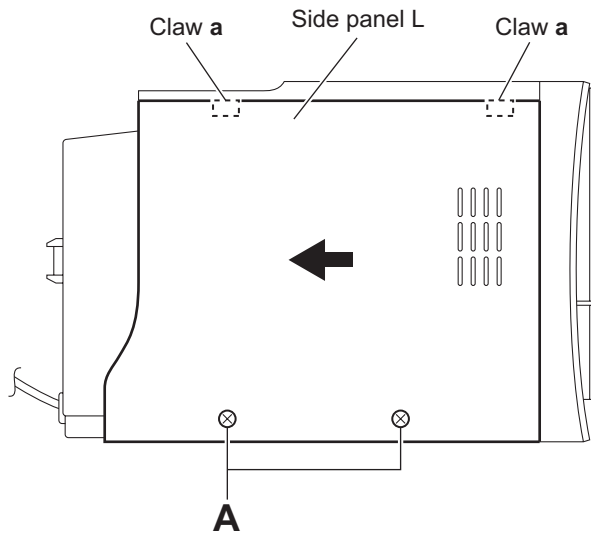

Fig.1
3.1.1 Removing the side panels L/R (See Figs.1 to 4)
- (1) From the both sides of the main body, remove the four screws **A** attaching the side panels L/R. (See Figs.1 and 2)
- (4) Release the claws **a** of the side panels L/R in the direction of the arrow and remove the side panels L/R from the main body. (See Figs.1 and 2)